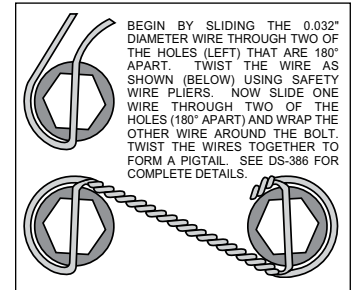
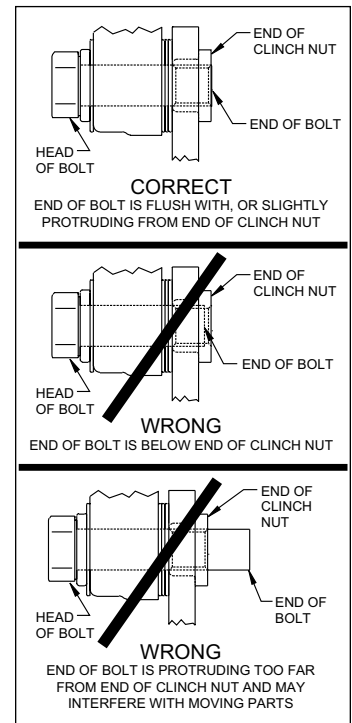

Figure 4. Safety Wire Diagram
Figure 5. Clinch Nut Engagement Diagram
CAUTION: All mounting bolts must fully engage clinch nuts. Be sure to check that all bolts are either flush or protruding through flanged side of clinch nut after shimming, Figure 5.
- With the mounting ears pointing towards the rear of the vehicle, install the caliper mounting bracket (1) to the housing flange using the bolts and nuts supplied with the C-clip eliminator kit. Apply red *Loctite*® 271 to the bolt threads and torque to OEM specifications. **NOTE:** The caliper mounting brackets (1) should be located between the axle housing flange and the inner C-clip hub. Make sure the heads of the caliper mounting bracket insert nuts are FACING OUTWARD TOWARDS THE WHEEL.
- The rotor (3) has two sides. A flat side and an inset side. Bolt hat (2) to flat side of rotor (3) using bolts (5). Apply red *Loctite*® 271 to the bolt threads (5) and torque to 25 ft-lb using a criss-cross pattern. Safety wire bolts using standard 0.032 inch diameter stainless steel safety wire as shown in Figure 4. Please refer to Wilwood's data sheet DS-386 (available at www.wilwood.com/Pdf/DataSheets/ds386.pdf) for complete safety wire installation instructions.
- Align the correct hole pattern in the hat (2) with the stud pattern on the axle flange. **NOTE:** Some OEM and after market axles come with stud sizes larger than 0.50" diameter. Verify stud size and have a qualified machine shop drill the hats to the correct size. Slide the hat/rotor assembly (2 and 3) over the wheel studs and against the axle flange face.
- NOTE:** Please reference the caution statement at the beginning of the assembly instructions. Mount the caliper (6) over the rotor (3) and onto the caliper mounting bracket (1) using washers (7) and mounting bolts (8). View the rotor through the top opening of the caliper. The rotor should be aligned in the center of the caliper. If not, adjust the caliper by using 0.032 inch shims (9) by placing them between the caliper mounting bracket (1) and the caliper (6). Add as many shim washers (9) as necessary to achieve the correct alignment. **NOTE:** The end of the bolt must be flush with or slightly protruding from the head of the clinch nut. See Figure 5. Place spare shims (9) between washer and caliper mounting ear to achieve the proper mounting fastener configuration. Always use the same amount of shims on both the top and bottom caliper mounting bolts (8). Apply red *Loctite*® 271 to the mounting bolt threads (8), torque to 40 ft-lb. Caliper mount bolts may be safety wired for additional security.
- Position the Wilwood disc brake pads (10) into the caliper (6) and fasten with cotter pin (4). Steel backing plate side of brake pad should face the caliper pistons.